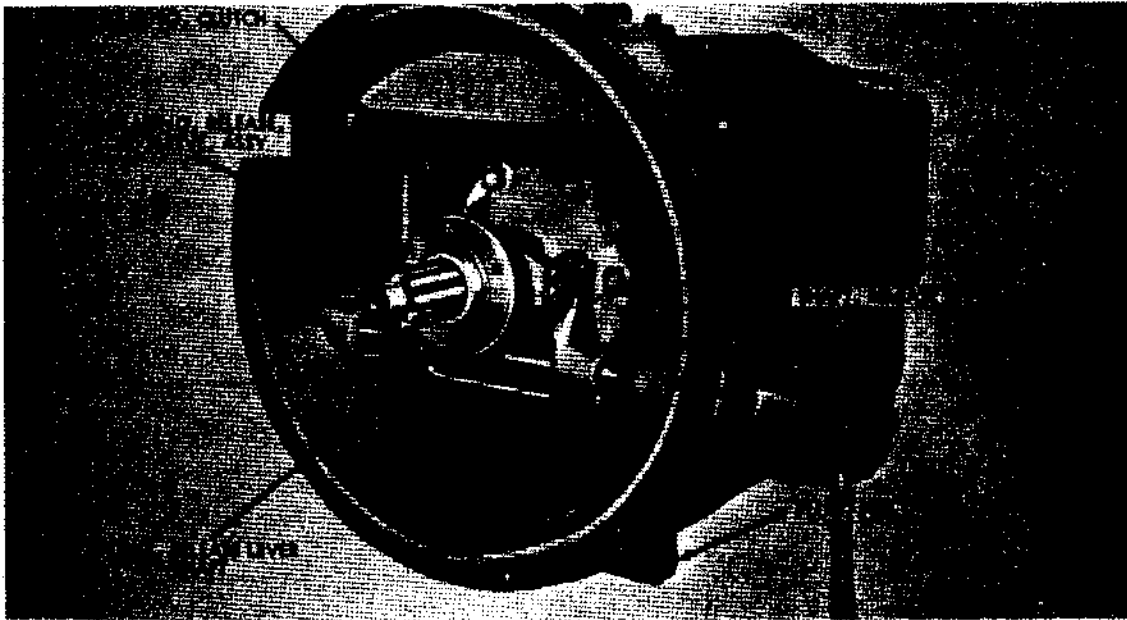

Figure 238. Transmission assembly - left front view
a. The transmissions (figs. 238 and 239) are manually shifted, synchromesh, selective-gear type, with five forward speeds and one reverse speed. Fifth forward speed is direct drive on the 6352 transmission (gasoline models) and an overdrive gear on the 6453 transmission (diesel models). Refer to figures 240 and 241 for power flow charts. A power takeoff, mounted on right side of transmission, transmits power to the drum winch and power hoist on vehicles so equipped. Vehicles on which power takeoff is not required have the opening in transmission sealed with a gasket
pipe plug (fig. 238) and noting if water flows from the opening. If there is water, drain and refill transmission (LO 9-2320-211-12). If no water is evident, install pipe (drain) plug promptly to prevent further loss of lubricant.
a. Clutch Throwout Shaft Yoke and Release Bearing (Fig. 238).
- (1) Remove screws securing spring clips to release bearing sleeve (one each side) and remove spring clips and release bearing with sleeve assembly.
- (2) Remove cap screws and lockwashers securing release lever yoke to release lever shaft. Slide shaft out from clutch housing far enough to remove yoke. Remove keys from shaft and remove shaft.